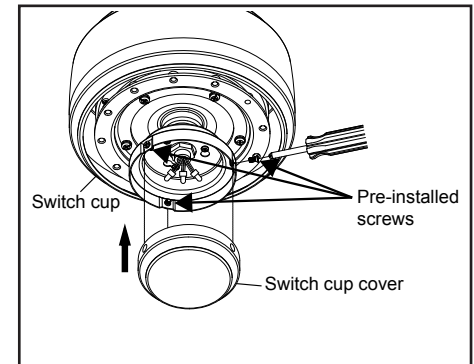

Figure 14
3. Remove pre-installed screws from the switch box cover and position the switch box cover onto the switch box. (Figure 14)